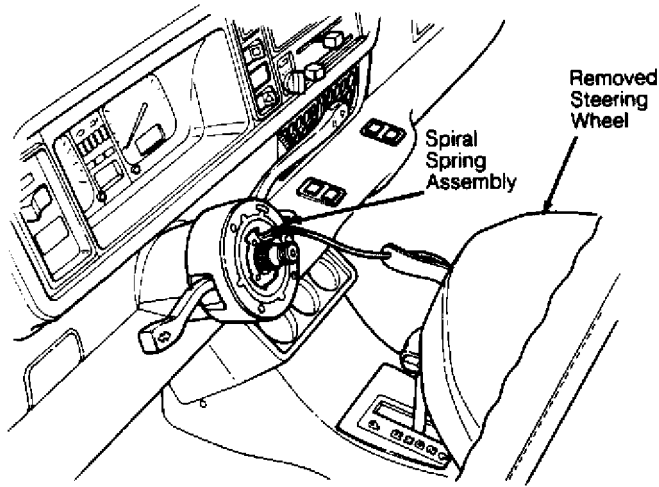

Fig. 3: Removing Spiral Spring Assembly
2) Remove air bag unit. See **AIR BAG UNIT**. Remove steering wheel. See **STEERING WHEEL**. Remove knee bar panel and steering column lower trim. Disconnect 2-pin wiring connector (Green/Black and Green/Red wires) at base of steering column. Remove 3 spiral spring retaining screws, and remove spiral spring. See Fig. 3.